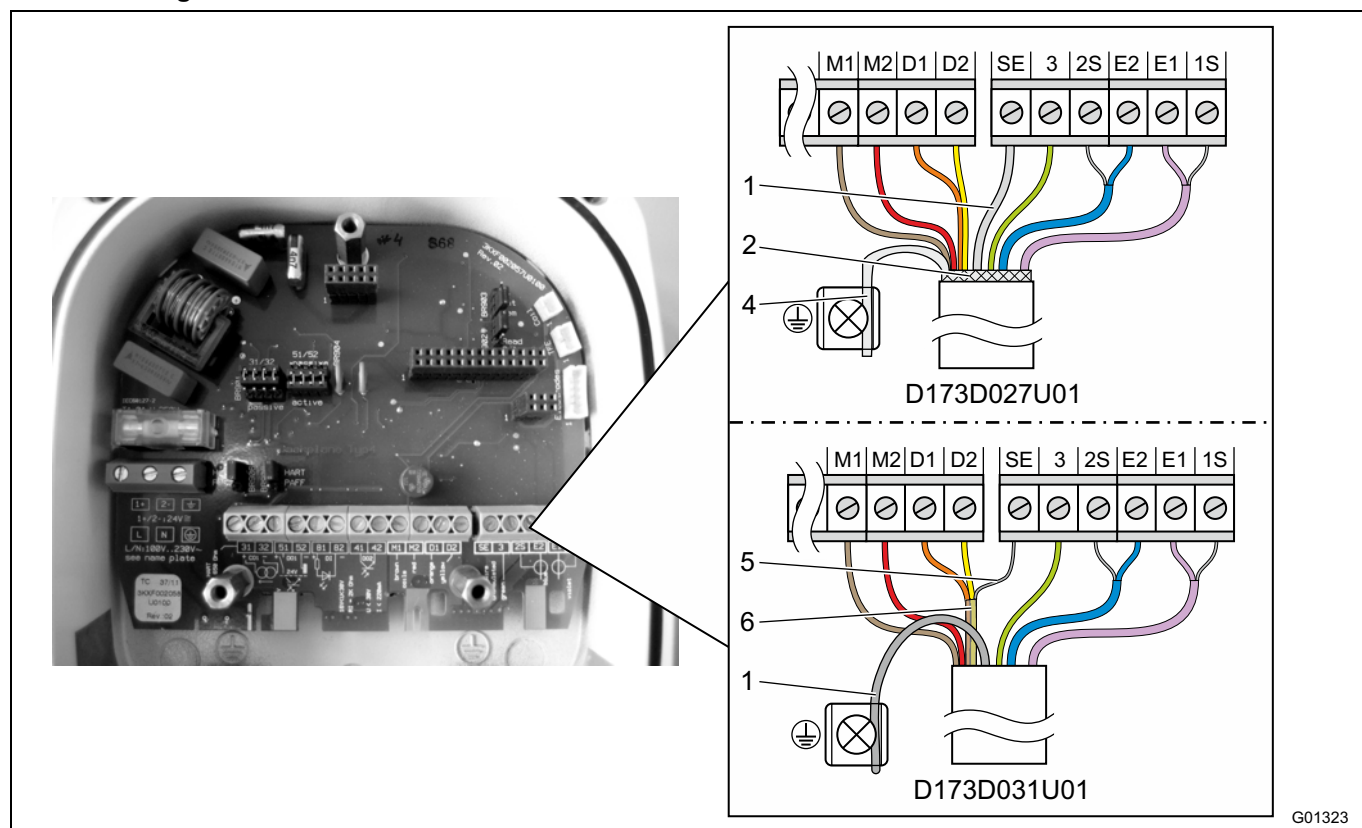

Fig. 29: Transmitter side, dimensions in mm (inch)
Prepare the cable end on the transmitter side as shown in Fig. 29.
- Connect all other wires as shown in Fig. 29.